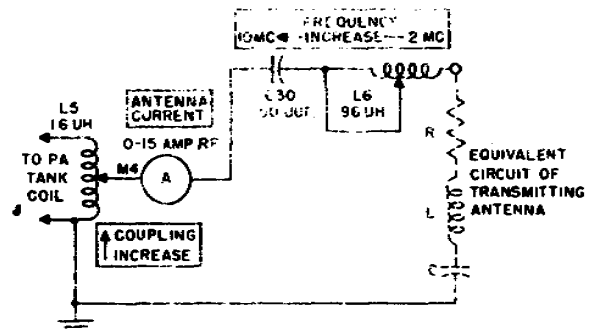

Figure 36. Antenna tuning unit with range switch in LONG WIRE position.
c. Figure 36 is a functional schematic diagram of the tuning unit with switch SW9 set to LONG WIRE and a long-wire antenna connected to the unit. The antenna may be either capacitive or inductive depending on the length of the wire and frequency used. The net reactance is made equal to zero by varying the movable tap of low-frequency loading coil L6. Vacuum-type capacitor C30 provides the necessary capital capacitance when the reactance of the antenna is inductive because